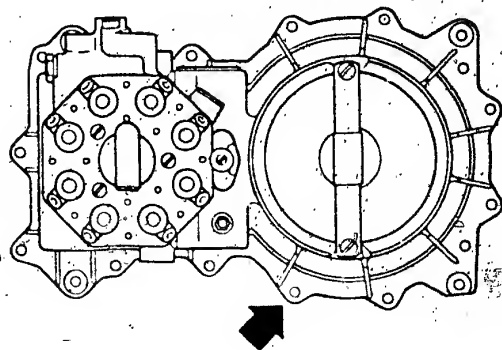

Fig. 5
- o Secure the bracket (Item 3) with the bolt of the air-flow sensor mounting hole shown by an arrow in Fig. 5.
- o Fasten the fuel-line-pressure damper (Item 1) to the bracket with the fastening clamp (Item 6), bolt (5) and washer (4). For the time being, only tighten the bolt finger-tight.